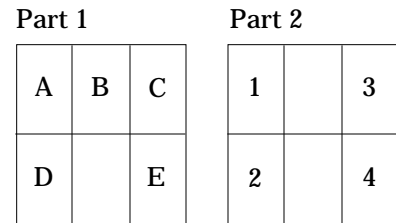

Figure 1
3. Divide each black tile into six test sections using scotch tape. These sections will later become 5 test areas for polishes A through E in Part 1 and test areas for new test solutions 1 through 4 in Part 2. Each tile will also include a control area. (See Figure 1)